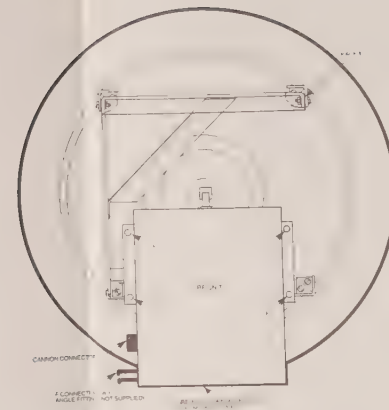

Figure 3-22. Fully Assembled RF Antenna Assembly - Vertical Polarization
Step 3. Mount the RF Unit on the reflector using screws at points D, E, F, and G with the connectors pointing down as shown in Figure 3-22.